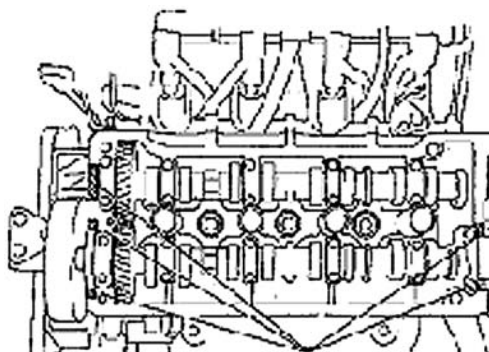

Figure 48
- (b) Apply the seal glue on cylinder head cover as shown in Figure 48.